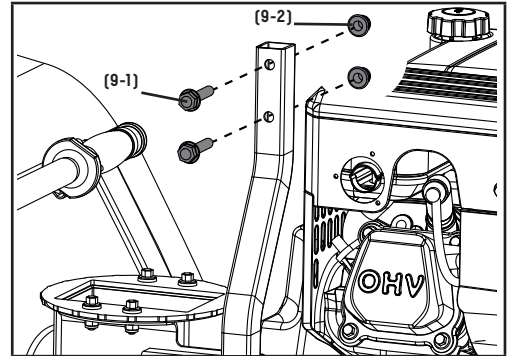

Figure 9
1. Remove the bolts (9-1) and nuts (9-2) from the top of the discharge support. Set aside for next step. (Fig. 9)